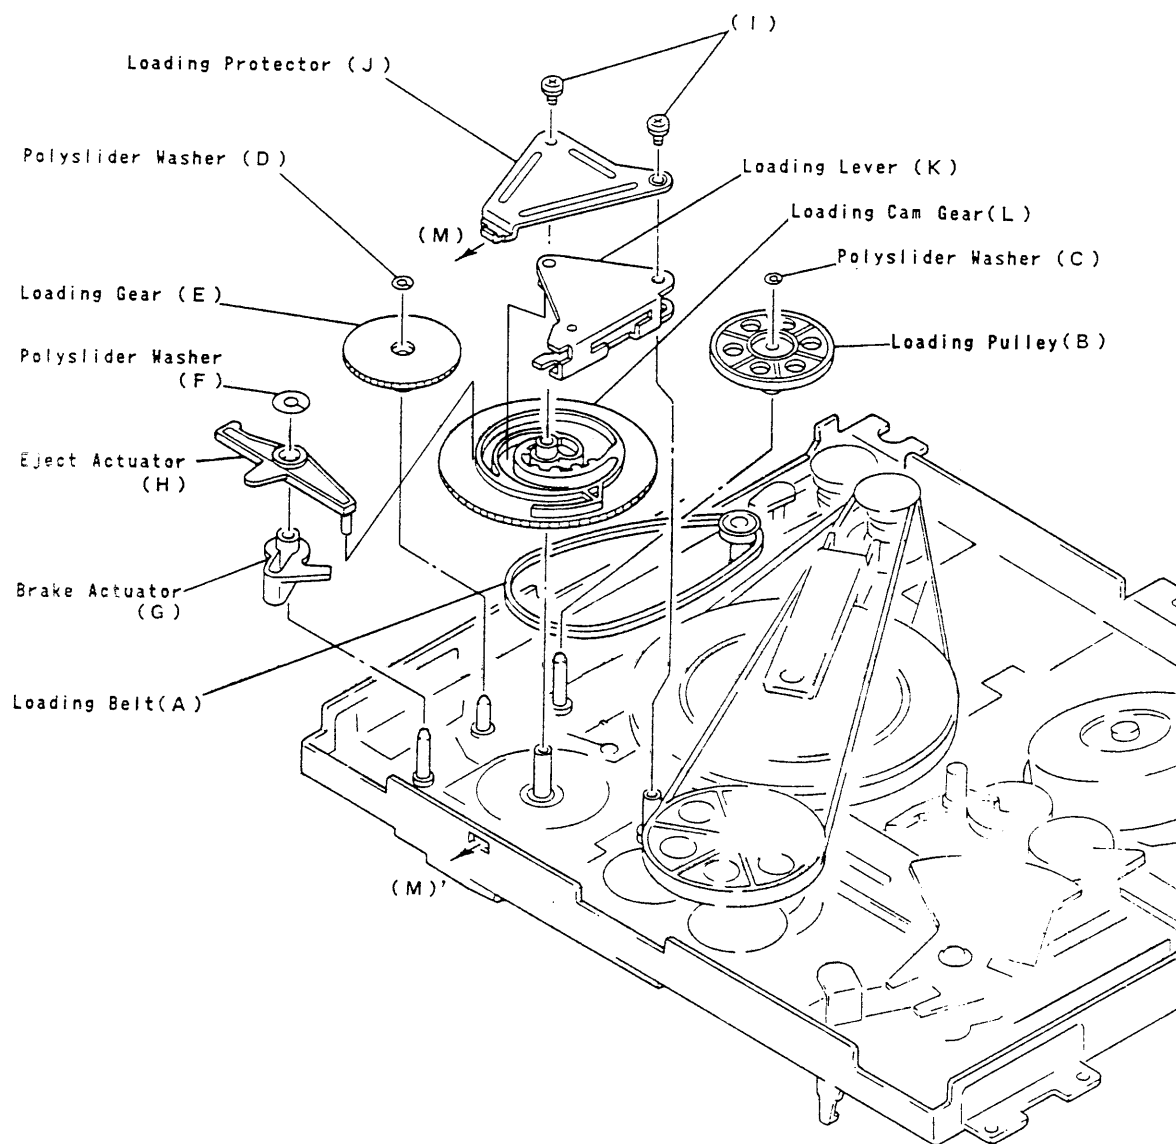

Fig. 2-12
(12) Loading Cam Gear (Fig. 2-12)